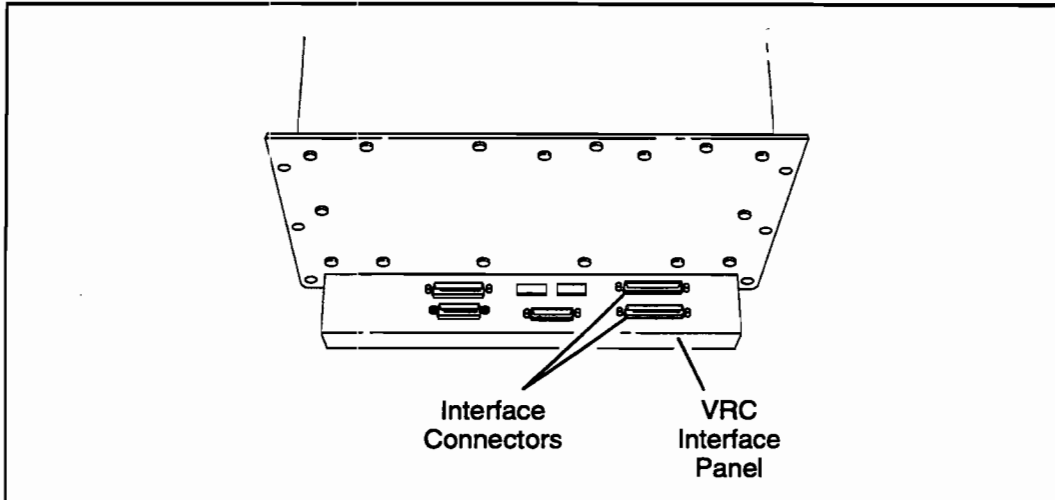

Figure 3-11. VRC Interface Connectors
7. Attach the straight-shaped end of a VRC-to-print engine cable to the VRC I/F connector on the VRC interface panel. The VRC interface panel is shown in Figure 3-11. Using a #1 Phillips screwdriver, secure the connector.